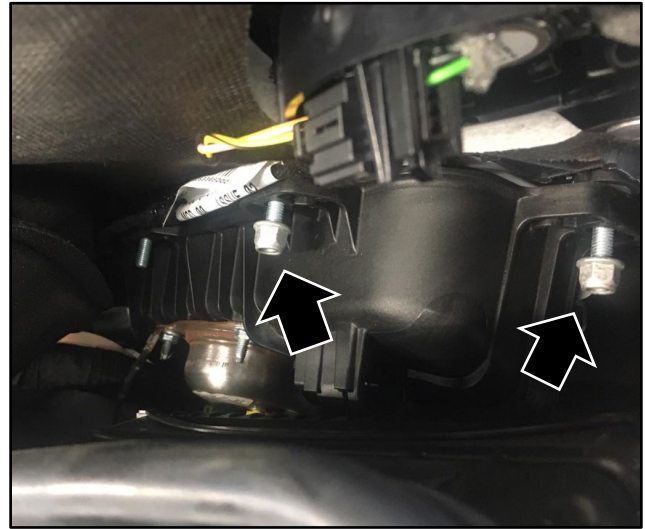

Figure 6
5. If any of the locking nuts are not installed correctly (refer to Figure 6) go to Part B: Torque the Locking Nuts to the Correct Specification.